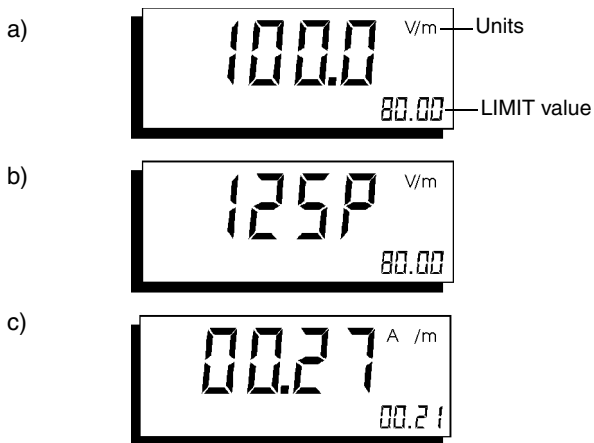

Figure 4-7 Field strength display (using flat frequency response E-field probe as example)
- You can press the **V/m / A/m** key to display the measured field strength in one of three different units; compare Figure 4-7. Each keystroke switches between the following: